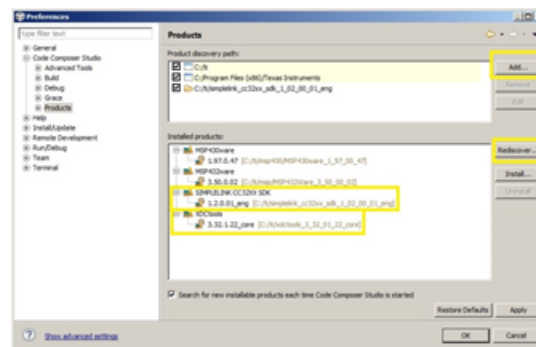

Figure 35. CCS Installed Products
- Choose Window → Preferences → Code Composer Studio → Products (see Figure 35).